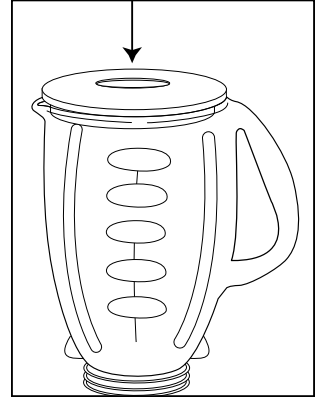

FIGURE 6
- Do not remove the lid while in use. Remove filler cap to add smaller ingredients. (Figure 6)